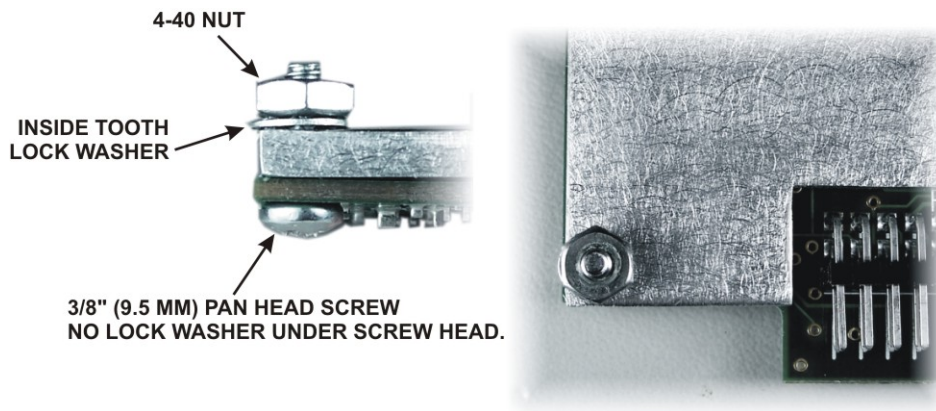

Figure 25. Stiffener Plate Fastener on KSYN3 Board.
- Remove the KSYN3 board from its ESD protective packaging and confirm that the screw, washer and nut are mounted on the bottom corner of the KSYN3 board as shown in Figure 25. Note that the nut is on the side with the stiffener plate.